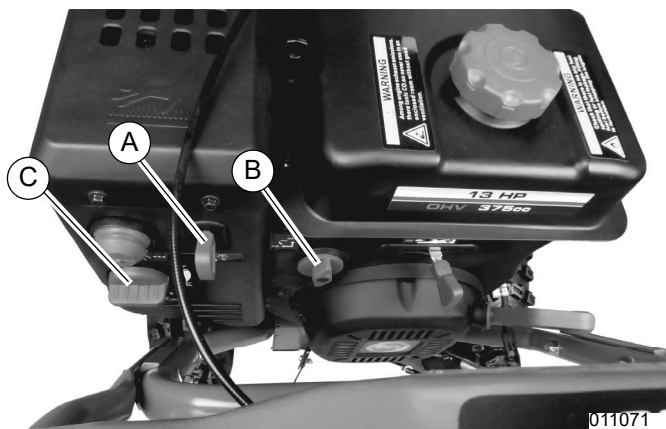

Figure 3-3. Electric Start
2. See Figure 3-3. Insert key (A) into key slot.